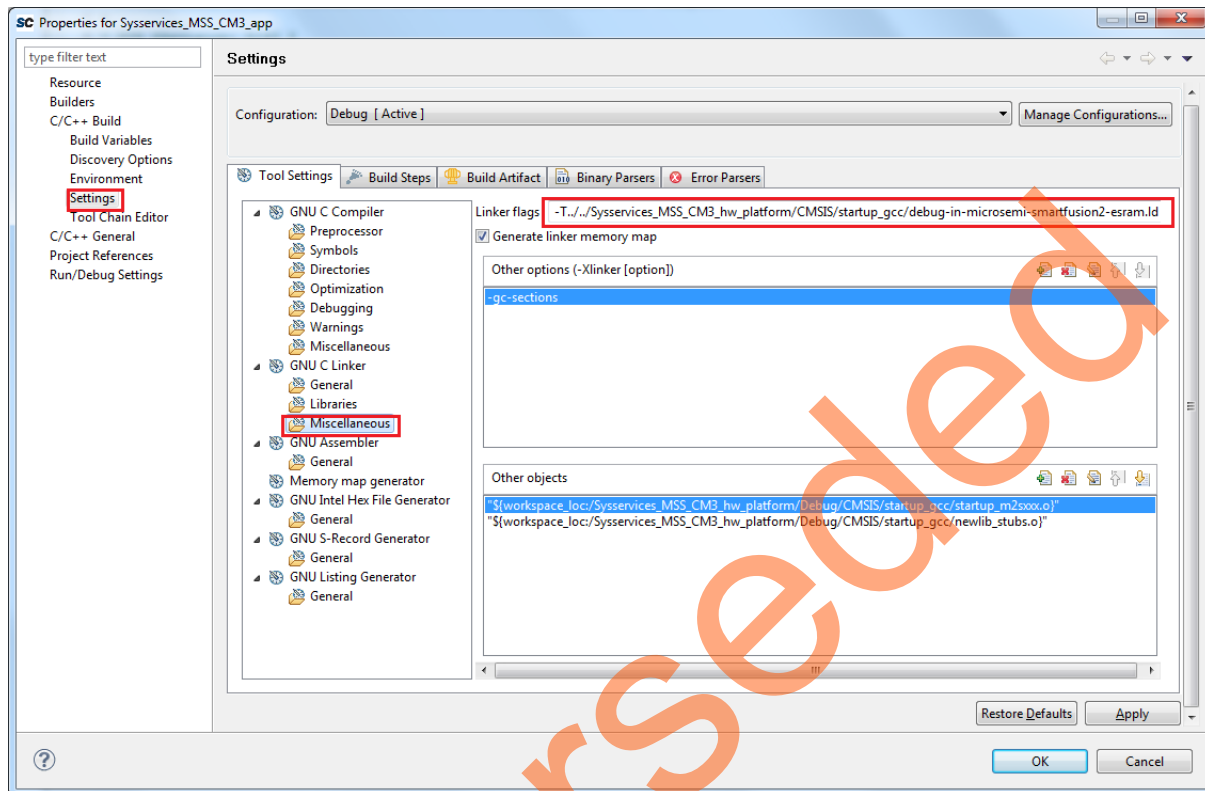

Figure 35 • Syssservices_MSS_CM3_app Properties Window
5. In the **Properties** window, go to **Settings** under **C/C++ Build** and select **GNU C linker** as **debug-in-microsemi-smartfusion2-esarm.ld** as shown in Figure 35. Click **Apply** and **OK**.